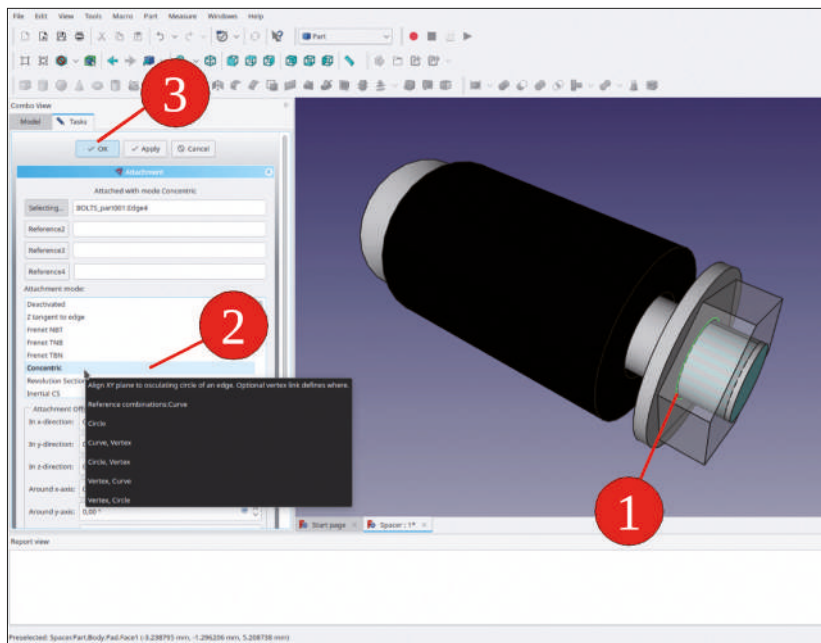

Figure 4-29
22. The nut is usually attached to the corresponding washer. To define the attachment, mark the nut in the tree view and switch to the 'Part'-workbench. From the main menu, select 'Part | Attachment'. The task window opens with a previously activated collector for Reference1. Click the top edge of the washer (e.g., the inner edge, Figure 4-29, step 1). For the attachment mode, select 'Concentric'. Then, close the task window with the 'OK' button. The nut now appears at the correct location.